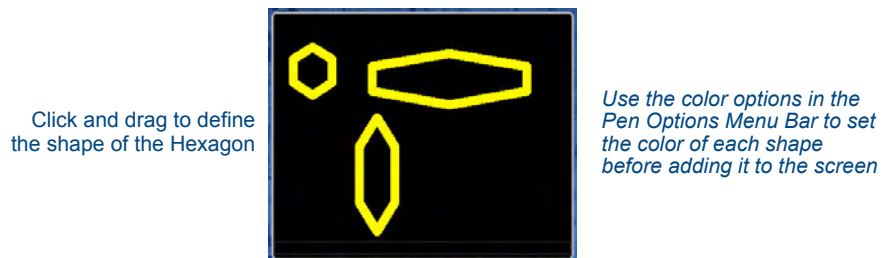

FIG. 111 Drawing Hexagons
- **Hexagons** - The diamond tool draws equilateral hexagons (FIG. 111):